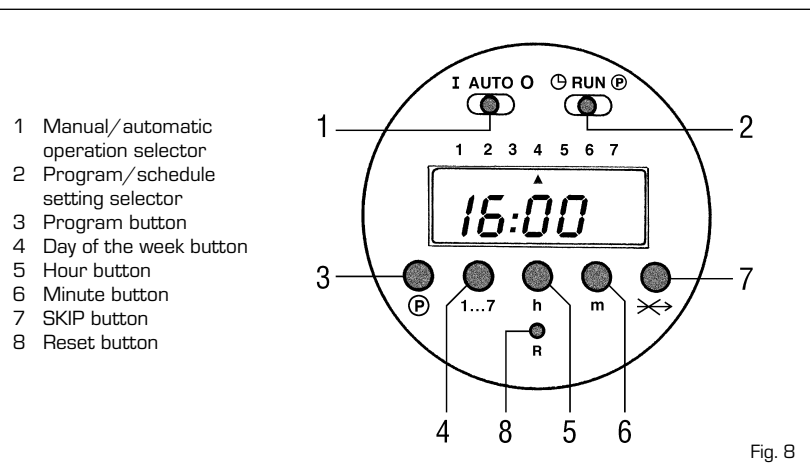
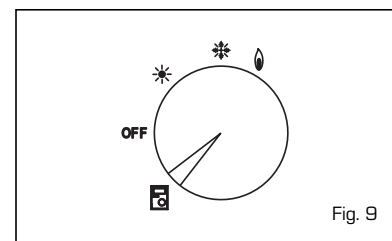

Fig. 8
Fig. 9
- Deleting one or more programs (fig. 8)
- **Setting the SKIP function (fig. 8)**
When "PLANET SUPER 4 F.S." is connected to the "Logica Remote Control" regulator, the selector CR/OFF/EST/INV/UNBLOCK must be placed in the position (fig. 8); the knobs of the D.H.W. and C.H. potentiometers do not have any effect and all of the functions will be managed by the regulator (fig. 9).